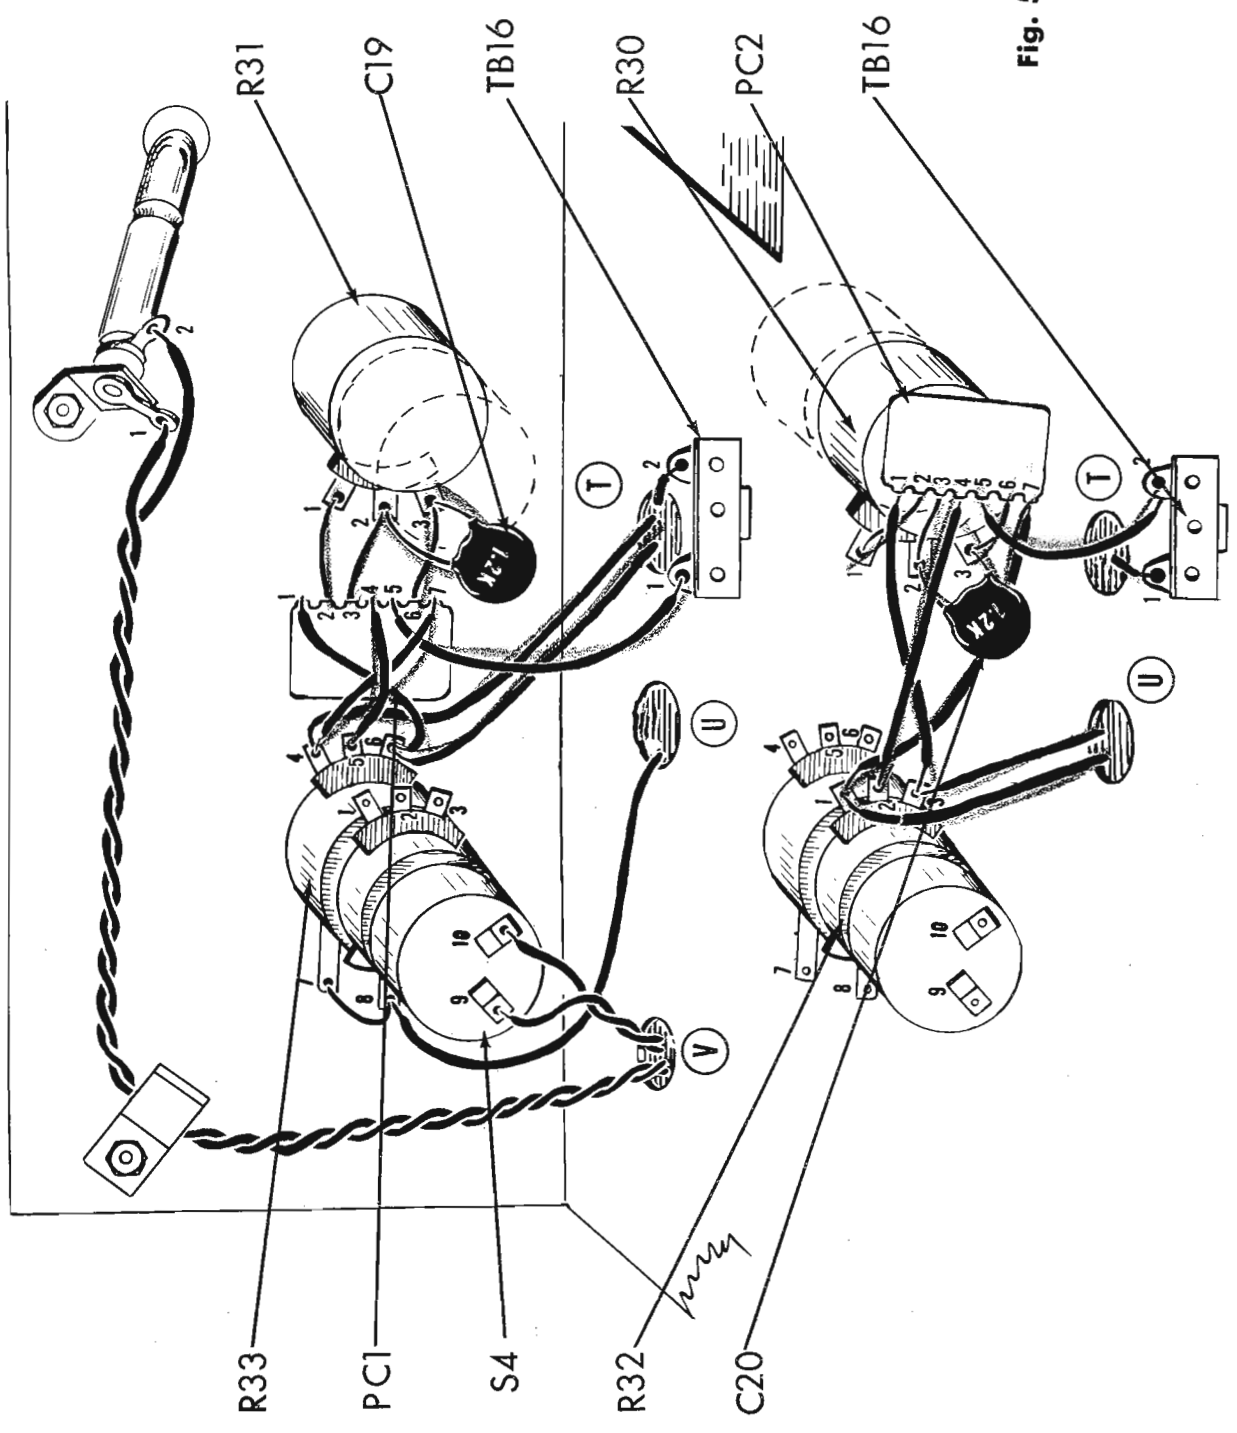

Fig. 5
1. (✓) Fig. 5. Strip the outer insulation back 1/2" on one end of a 8" piece of single conductor shielded cable. Twist the shield strands together and cut off. Strip the inner insulation back 1/4". Connect this end to R33-4 (C). On the other end of the same piece of cable, strip the outer insulation back 3/4". Twist the shield strands together. Strip the inner insulation back 1/4". Push this end of the cable through hole "T" to the bottom of the chassis.
2. (✓) Fig. 5. Connect one end of a 7" piece of brown wire to R33-6 (C). Push the other end through hole "T".
3. (✓) Fig. 5. On the printed circuit plate, PC1, cut leads #2, #3 and #6 to 1/2". Cut leads #1, #5 and #7 to 2". Cut lead #4 to 1 1/2". Connect lead #6 to R31-3 (C), lead #3 to R31-2 (C) and lead #2 to R31-1 (S1). Cover leads #1 and #7 each with a 1 3/4" piece of spaghetti. Connect lead #1 to R33-6 (S2) and lead #7 to R33-4 (S2). Cover lead #4 with a 1 1/4" piece of spaghetti and connect to R33-5 (S1). Cover lead #5 with a 1 3/4" piece of spaghetti and connect to TB16-1 (C).
4. (✓) Fig. 5. Cut both leads on a .0012 mfd (1.2K or 1200 mmf) disc capacitor, C19, to 1/2". Connect from R31-2 (S2) to R31-3 (S2).
5. (✓) Fig. 5. Connect one end of a 5 1/2" piece of green wire to TB16-2 (C). Push the other end through hole "T" to the bottom of the chassis.
6. (✓) Fig. 5. Connect one end of a 10" piece of grey wire to the switch S4-9 (S1) which is mounted on the rear of the dual treble control potentiometers. Connect one end of a 14" piece of black wire to S4-10 (S1). Twist the two leads together and push the unsoldered end through hole "V" to the bottom of the chassis.
7. (✓) Fig. 5. Cut the leads #2, #3 and #6 on printed circuit plate PC2, to 1/2". On the same printed circuit plate PC2, cut leads #1 and #7 to 2 1/4", lead #5 to 1 1/4" and lead #4 to 1 3/4". Connect lead #6 to R30-3 (C), lead #3 to R30-2 (C) and lead #2 to R30-1 (S1). Cover leads #1 and #7 each with a 2" piece of spaghetti. Connect lead #7 to R32-1 (C) and lead #1 to R32-3 (C). Cover lead #4 with a 1 1/2" piece of spaghetti and connect to R32-2 (S1). Cover lead #5 with a 1" piece of spaghetti and connect to TB16-2 (S2).
8. (✓) Fig. 5. Cut both leads on a .0012 mfd (1.2K or 1200 mmf) disc capacitor, C20, to 1/2". Connect from R30-3 (S2) to R30-2 (S2).
9. (✓) Fig. 5. Connect one end of an 8" piece of grey wire to TB16-1 (S2). Push the other end through hole "T" to the bottom of the chassis.
10. (✓) Fig. 5. Connect one end of a 4" piece of yellow wire to R32-3 (S2). Push the other end through hole "U" to the bottom of the chassis.
11. (✓) Fig. 5. Strip the outer insulation back 1/2" on one end of a 5" piece of single conductor shielded cable. Twist the shield strands together and cut off. Strip the inner insulation back 1/4". Connect this end to R32-1 (S2). On the other end of the same piece of cable, strip the outer insulation back 3/4". Twist the shield strands together. Strip the inner insulation back 1/4". Push this end of the cable through hole "U" to the bottom of the chassis.